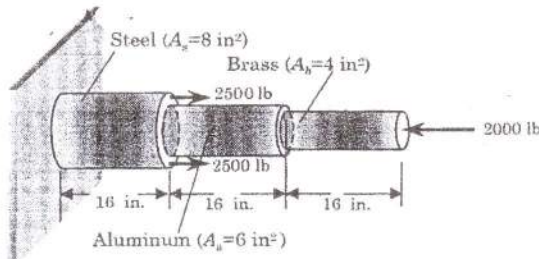

Fig. 1
1. Find the stresses and compressions in each section of the composite member shown in Fig. 1. Use  $E_s = 30 \times 10^6$  psi,  $E_a = 10^7$  psi,  $E_b = 15 \times 10^6$  psi, and the minimum number of linear elements. Convert the dimensions and other given parameters to SI units and solve the problem. 10